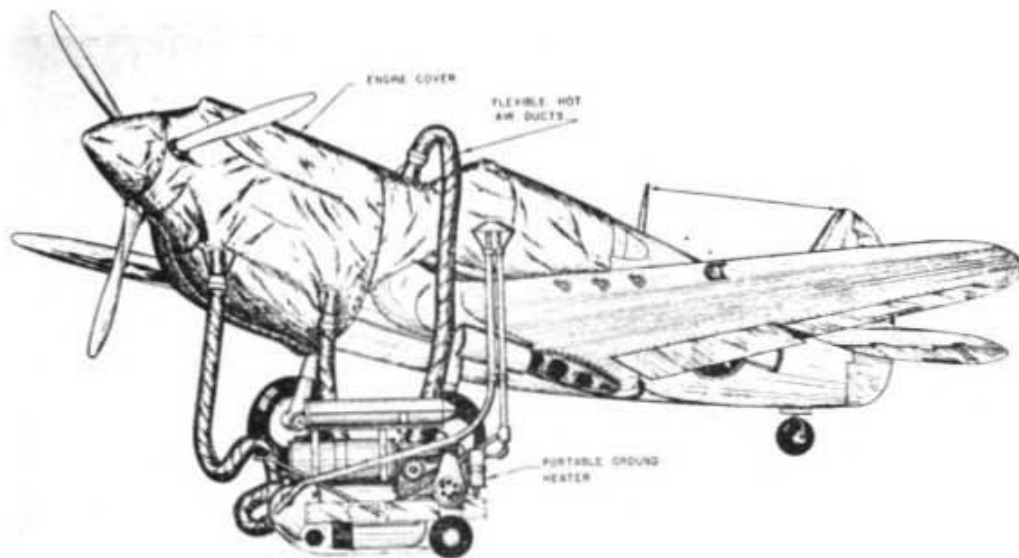
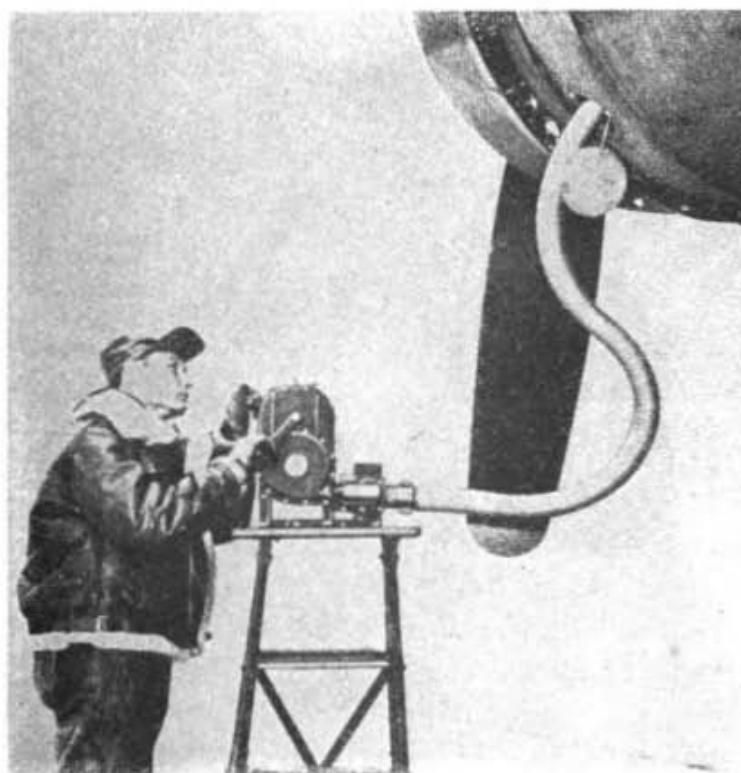

Figure 30. Heater tubes attached to engine cover.
Figure 31. Portable heater in operation.
(8) PORTABLE GROUND ENGINE HEATERS. Portable ground engine heaters are available in two types. These are the type D-1 heater, which incorporates a small gasoline engine, and the portable hand-operated heater. When the temperature is below -23° C. (-10° F.) these heaters are used to preheat the engine and accessory units before starting. The heaters are provided with oil burners. In the D-1 type portable heater a small gasoline engine provides the power to drive the blower which forces cold air from the atmosphere to the burner for combustion. Other air is forced over the heated jacket (oven) and is used for the actual engine heating process. The outlet ports are provided with flexible heat-resistant canvas tubes designed for easy connection to the airplane. (See fig. 30.) The hand-operated portable heater consists of a burner and a hand crank to rotate the blower. A length of flexible tubing is attached to the outlet of the heater to carry the heated air to the various parts of the engine as shown in figure 31. During the preheating operation the cowl flaps should be closed and the